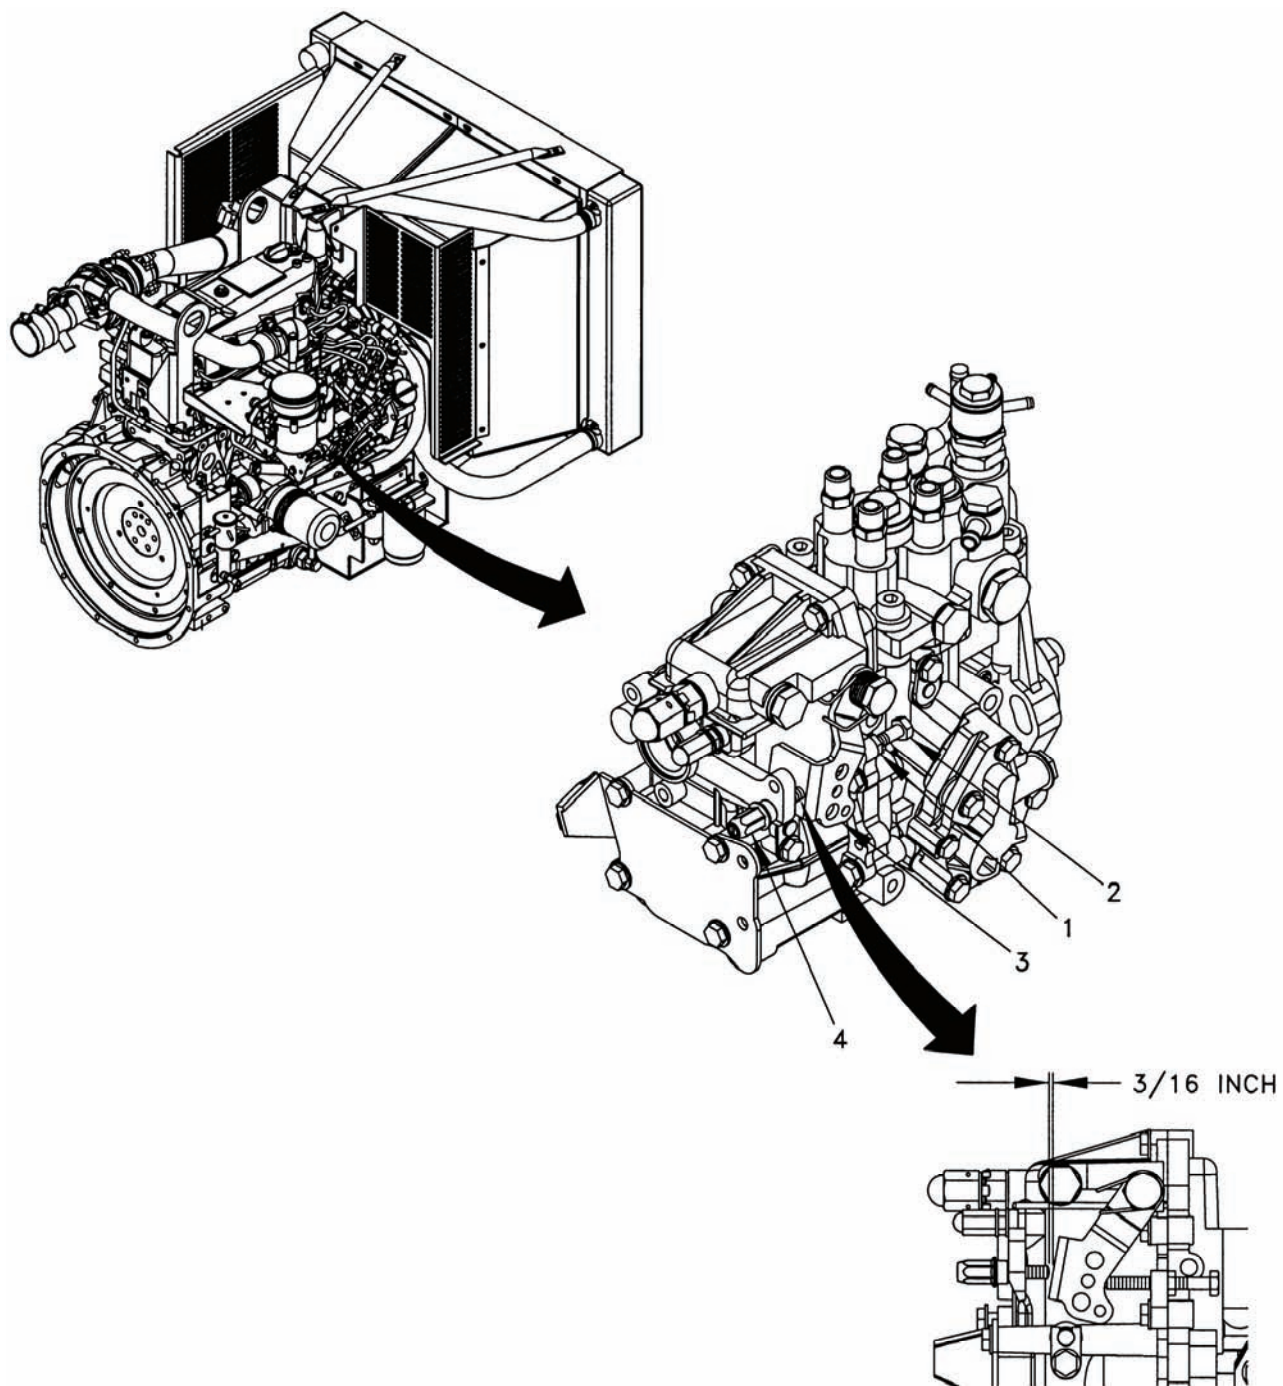

Figure 5-47. Governor Actuator.
Loosen lock nut (1, Figure 5-47) and adjust throttle minimum adjust screw (2) to where throttle (3) is within 3/16 inch (0.47 cm) of throttle maximum fuel stop (4).